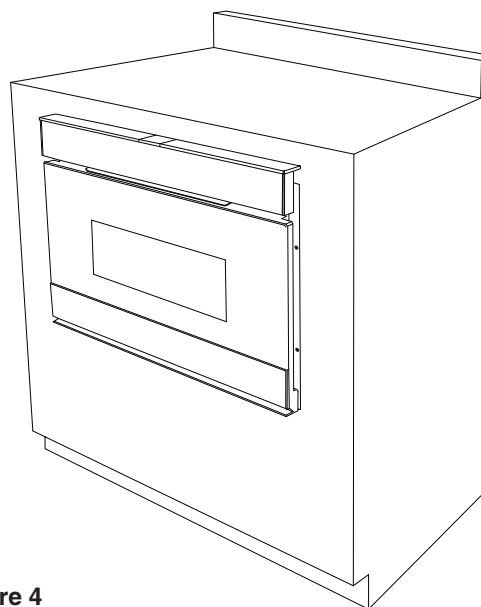

Figure 4
6. Close drawer to complete oven installation. See Figure 4.